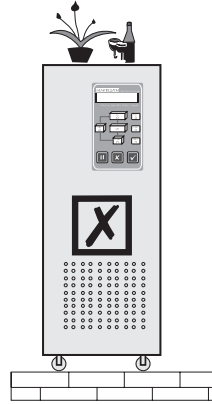

Figure 9
5. Do not lay goods on the UPS. (Figure 9)